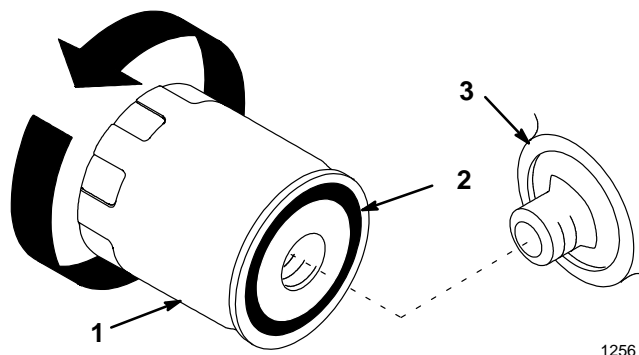

Figure 48
2. Remove the transaxle filter and wipe the filter adapter (Fig. 48) gasket surface.
3. Apply a thin coat of new oil to the rubber gasket on the replacement filter (Fig. 48).
4. Install the replacement transaxle filter to the filter adapter. Turn the filter clockwise until the rubber gasket contacts the filter adapter, then tighten the filter an additional 3/4 turn (Fig. 48).